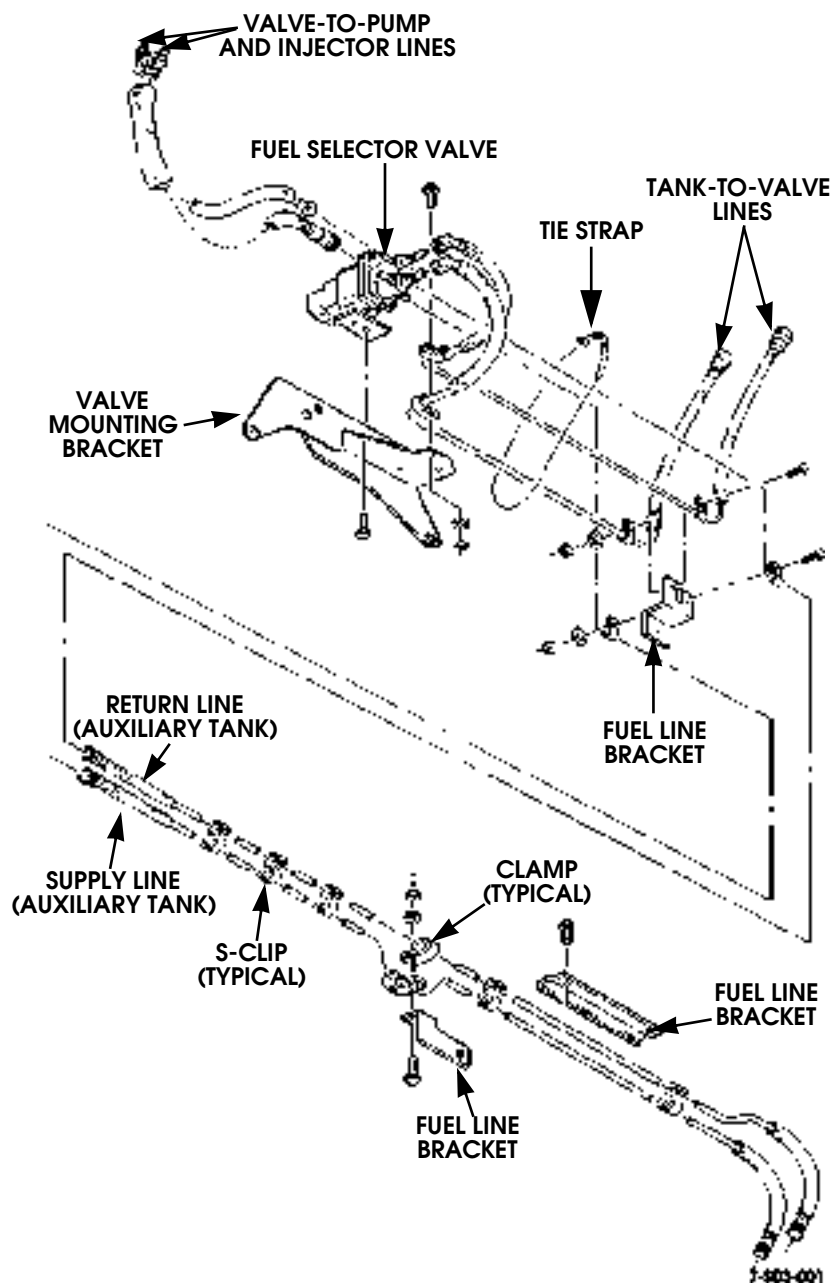

Figure 3-39: Fuel Lines, Connections, and Attachment
9. Remove supply and/or return lines as needed (Figure 3-39).
1. Route new lines as needed (Figure 3-39). Be sure lines are not kinked, pinched, or touching hot or rotating parts.
The selector valve is used on models equipped with an auxiliary fuel tank (Figure 3-39). The valve is electrically operated by a switch in the passenger compartment. The switch will be mounted on the instrument panel.